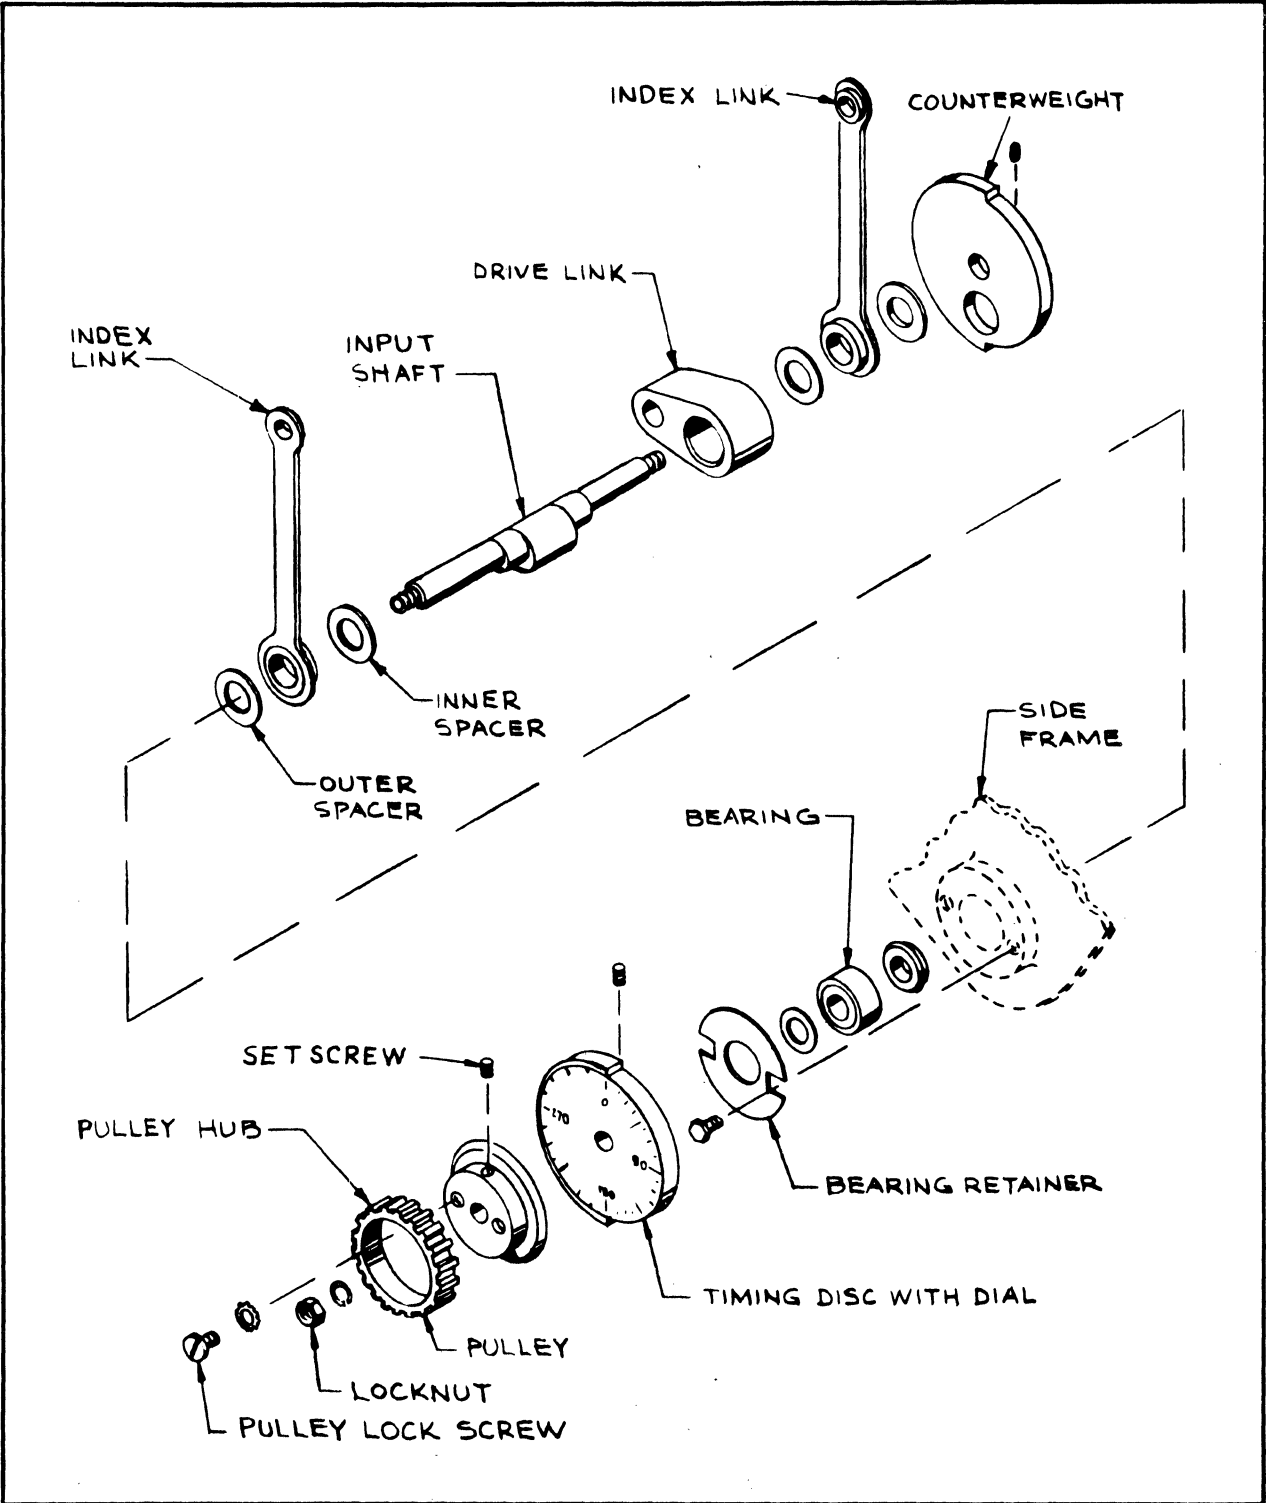
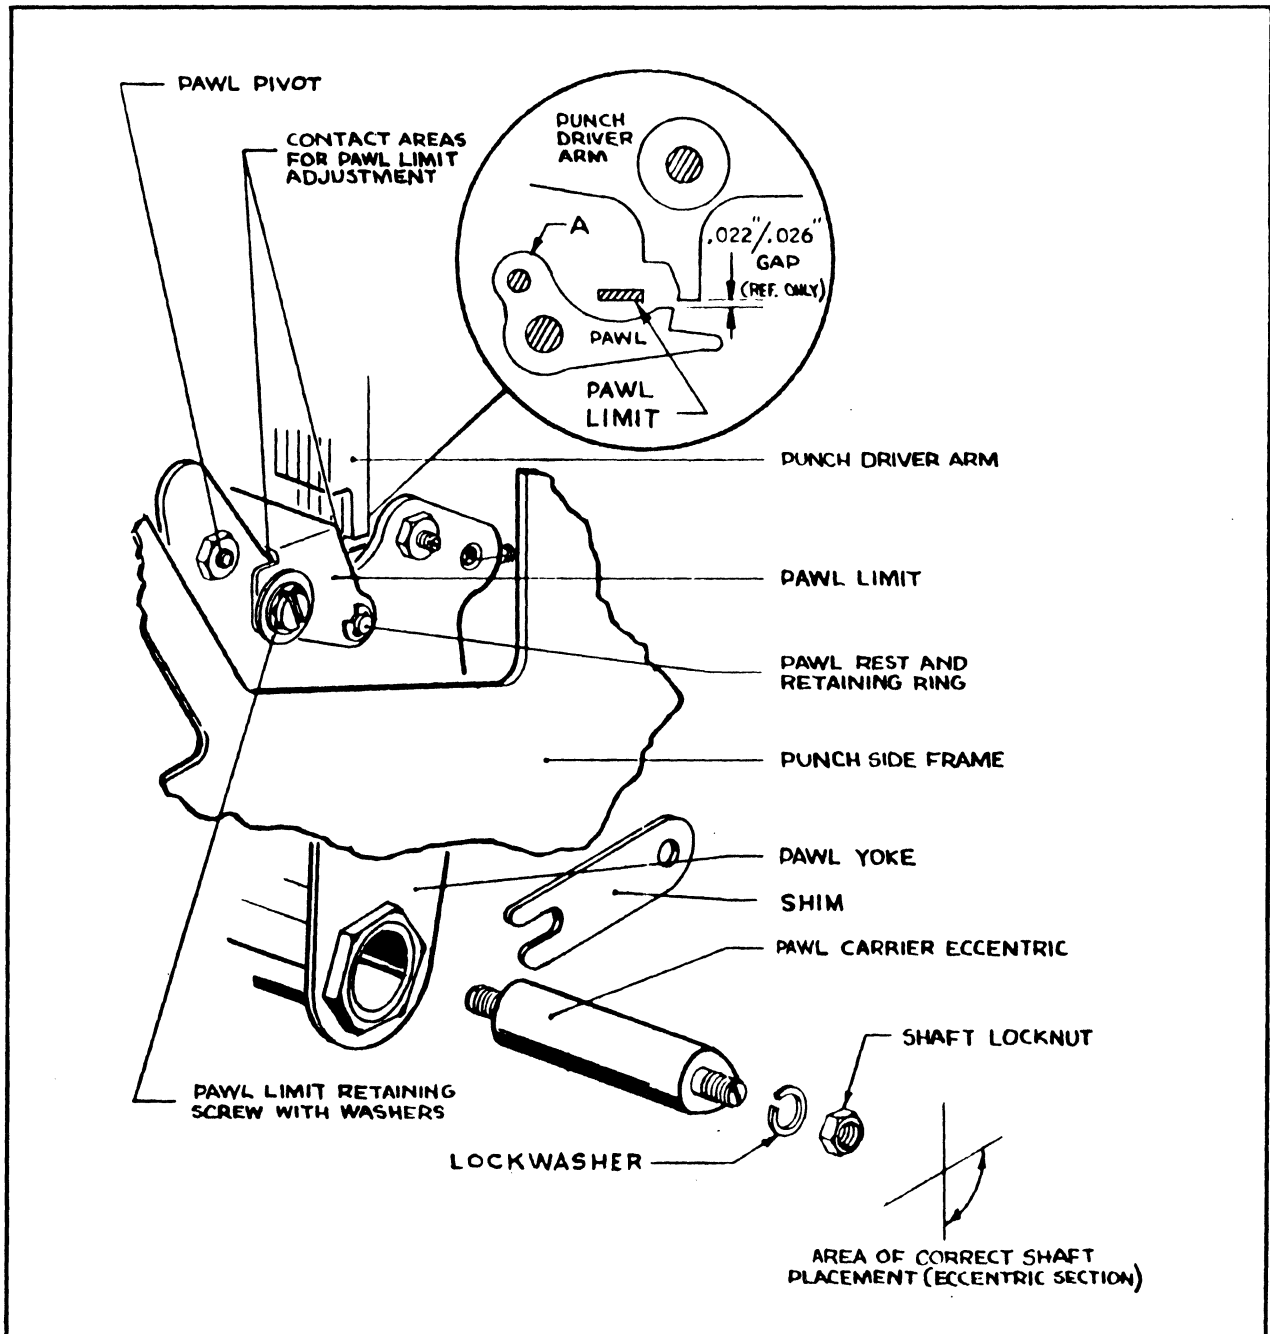
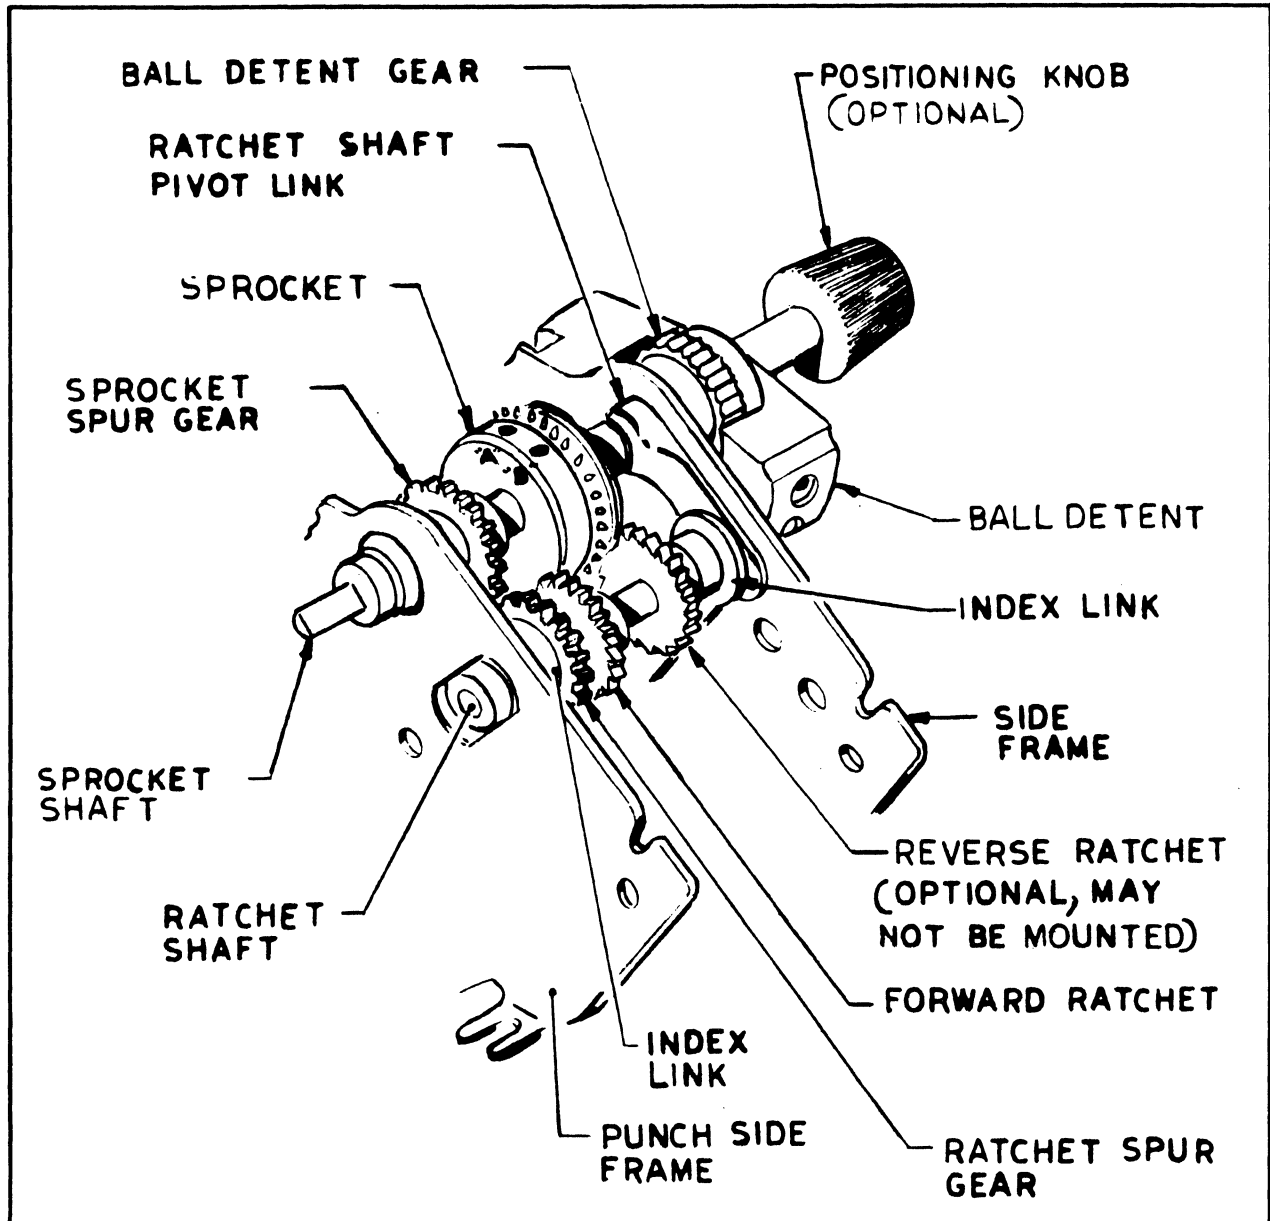

Figure 3.3 Input Shaft and Components
Figure 3.6 Pawl Adjustment and Pawl Limit
Figure 3.10 Feed Mechanism
4. Use the result of example 2 to set the dial so that position 276 degrees lines up with the center of the coil pole piece. Hold the shaft firmly in place and loosen the nut at the timing disc side, see Figure 3.3, and the timing disc setscrew. This setscrew is located in the hub of the disc.
The input shaft rotates continuously while the punch is in operation. The shaft and pulley which is attached to one end of the shaft is driven with a gear belt from a separately-mounted motor. The shaft is eccentric, therefore imparting a reciprocating motion to the drive link and the index link assemblies shown in Figure 3.3. These items continue to move back and forth, raising and lowering the feed mechanism, Figure 3.10, and causing the pawl yoke, Figure 3.6, to swing back and forth about its eccentric shaft.
1. Turn the input shaft to approximately 40 degrees. Manually press pawls at point A; see insert of Figure 3.6. This forces pawls to rise.
The adjustable eccentric shaft shown in Figure 3.6 is the pawl yoke pivot point. The punch drive adjustment must position this pivot point in such a way that a raised pawl moves the corresponding punch driver arm sufficiently far to lift the punch pin through the punch guide plate and into the upper die plate.
1. Remove the chad tube. Remove the ball detent mounting screws, see Figure 3.10, and remove the detent. Be careful that balls do not fall out. They are retained only by the adhesiveness of the grease within the housing.
one time. The sprocket, Figure 3.10, is mounted on the sprocket shaft, which is held in place on one side by the ball detent gear and, on the other side, by a collar. The shaft also supports the spur gear and the optional positioning knob.
time (zero degrees), the lower portion of the solenoid armature is pulled against the solenoid core and the interposer portion above the armature pivot point, see Figure 3.10, moves toward the ratchet gear.
1. Measure zoning. If an adjustment is required, loosen screws A and B, see Figure 3.10, and move the sprocket toward or away from the guide edge to obtain a correct spacing of  $0.371 \pm 0.002$  inch to the outside of the sprocket teeth.
The ball detent arrests the rotation of the sprocket shaft. It also holds the shaft fixed during upward movement of the index links. The detent is shown in Figure 3.10. It consists of an injection-molded plastic part into which six stainless steel balls have been inserted, with individual springs and setscrews. Setscrews are adjusted to provide enough spring tension so that contact between balls and detent gear keeps the shaft normally in a fixed position, except when operation calls for rotation of the sprocket shaft.